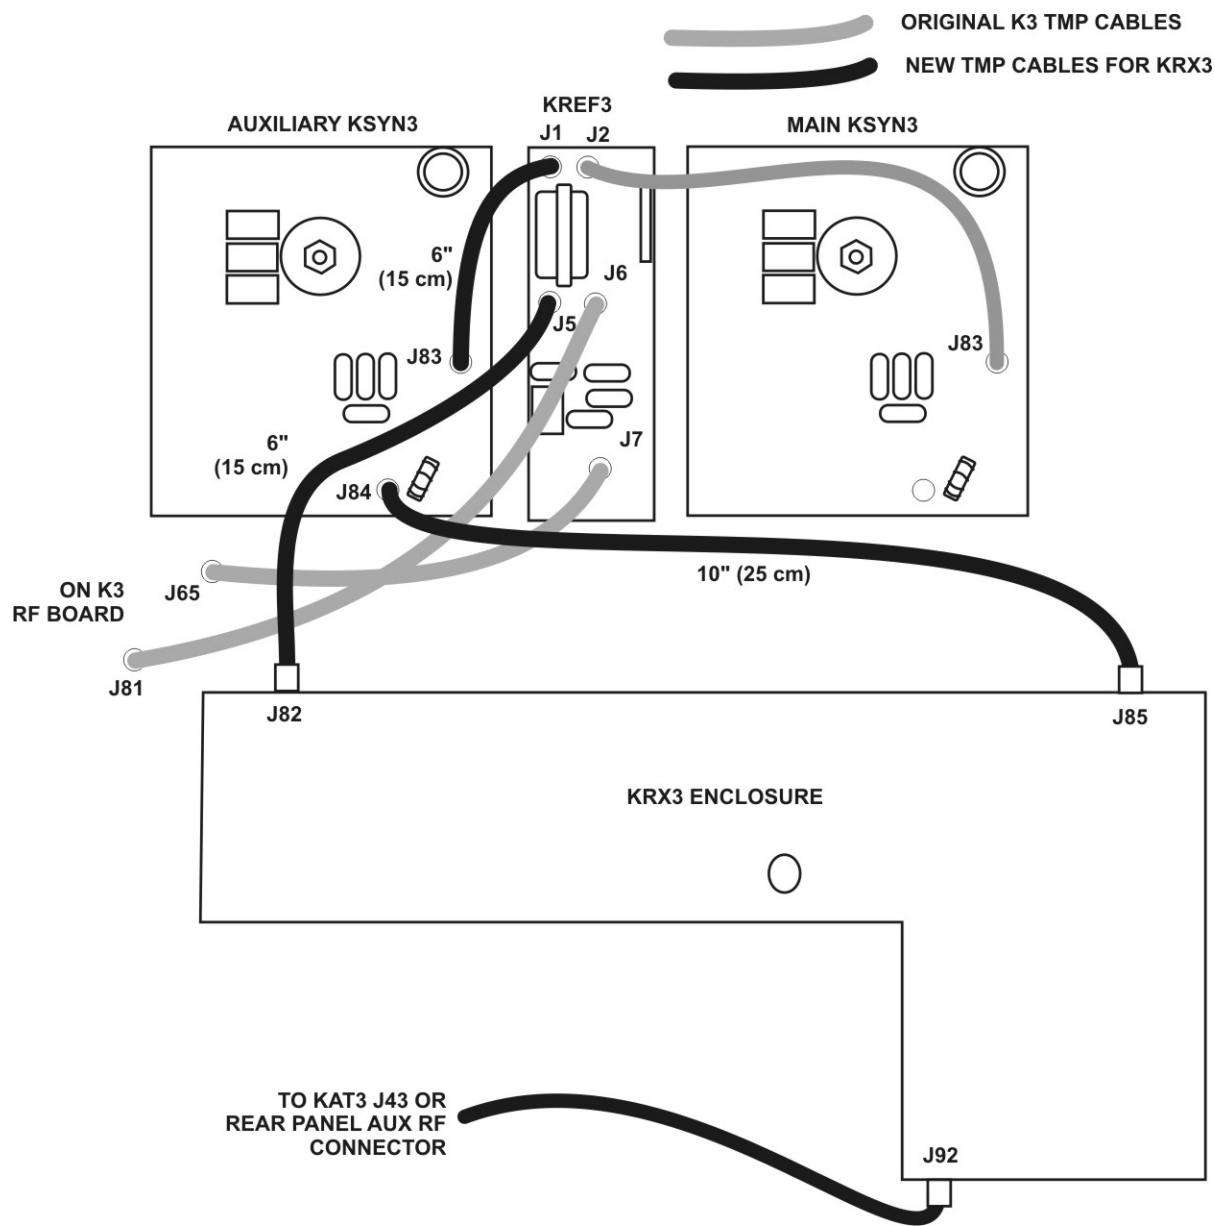

Figure 49. TMP Cable Connection Pictorial Diagram.
- Connect a 5" (13 cm) TMP cable to J5 on the KREF3 board (see Figure 49).
- Connect a 5" (13 cm) TMP cable between J1 on the KREF3 board and J83 on the Aux KSYN3 board as shown in Figure 49.
☐ Hold the assembled KRX3 module directly over the K3 and attach the TMP cables to J82 and J85 on the module as shown in Figure 49.